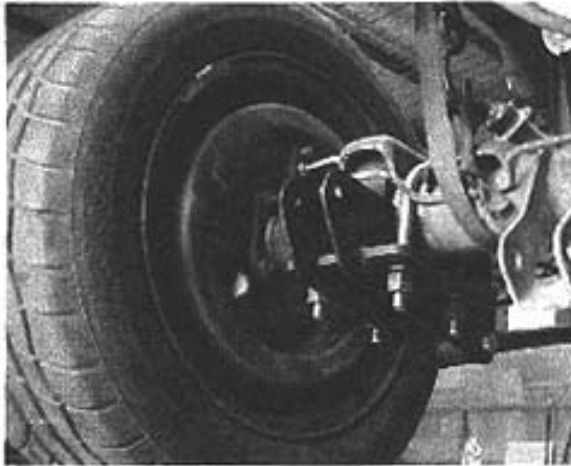

Figure 3
9. Install the rear 4-link brackets on the axle as shown in Figure 3 with the supplied U-bolts, black  $\frac{9}{16}$ " washers and black  $\frac{9}{16}$ " nuts. Torque U-bolt nuts to 120 lbs.